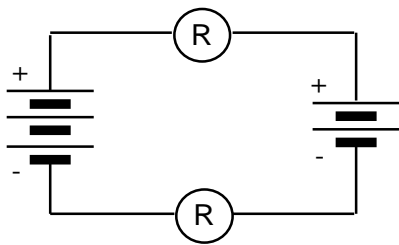

Figure 4.1c
2. Draw arrowtails and starbursts on Figure 4.1c. How does the flow rate and bulb brightness differ from the previous two circuits?